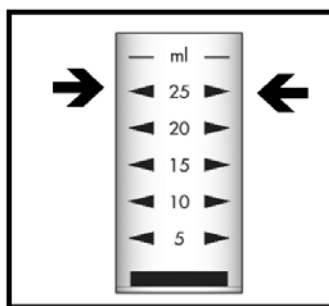

Figure 1
2. Fill the sample cup to the 25 mL mark with the sample (fig 1).